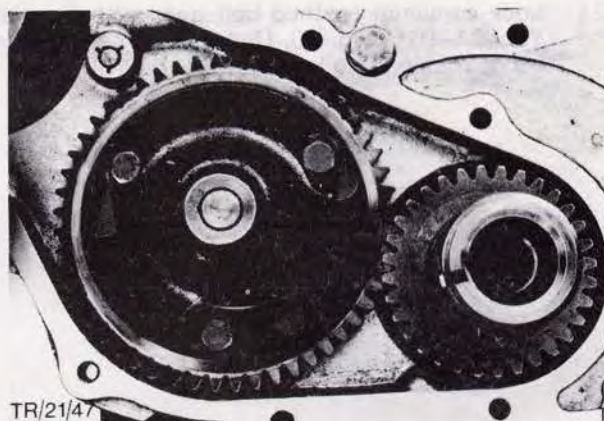

Fig. 53. Remove oil pump
25. Remove oil pump with mounting (3 bolts) from engine block, Fig. 53.